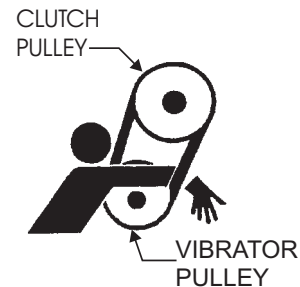

**Figure 25. Vibration Clutch Adjustment**
2. Loosen the front and rear nuts at the end of vibration clutch cable (Figure 25).
| Clutch Box                                    | Lubricate Grease Fitting             | Every 50 Hours of Operation  | Grease  | see Figure 25     |